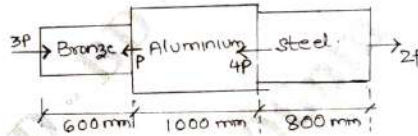

Fig.Q1(c)
- b. Two solid cylindrical rods are connected and loaded as shown in Fig.Q1(b). Determine:
- c. Determine the value of P that will not exceed a maximum deformation of 2mm or a stress of 120 MPa in steel, 80 MPa in Aluminium and 115 MPa in bronze (Fig.Q1(c)). Given the following data: